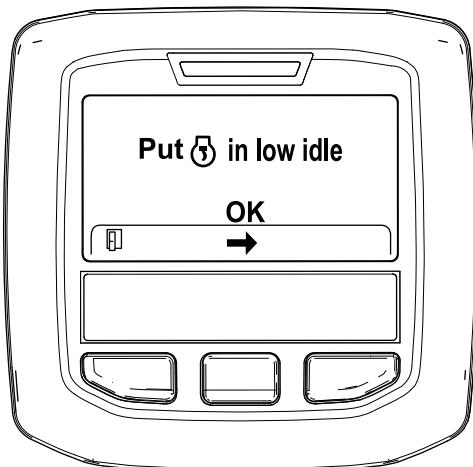

Figure 36
6. Move the throttle control to LOW IDLE and press the center button (Figure 36).